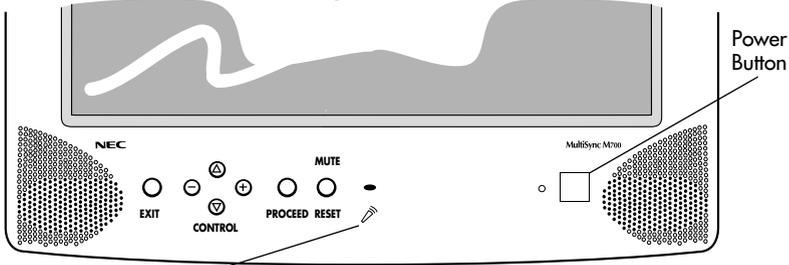

Figure D.1
NOTE: There is a microphone hole on the **front** of the monitor marked "🎤". This is the location of the built-in microphone. This is not to be used for the input for the mini jack cable. (Figure D.1)
8. Turn on your MultiSync monitor (Figure D.1) and computer.